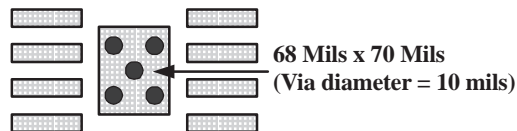

Figure 51. DGN PowerPAD PCB Etch and Via Pattern
1. Prepare the PCB with a top side etch pattern as shown in Figure 51. There should be etch for the leads as well as etch for the thermal pad.